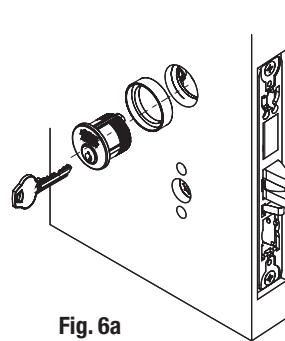

Fig. 6a
- Slide cylinder through collar. Thread cylinder into lockbody. (Fig. 6a)